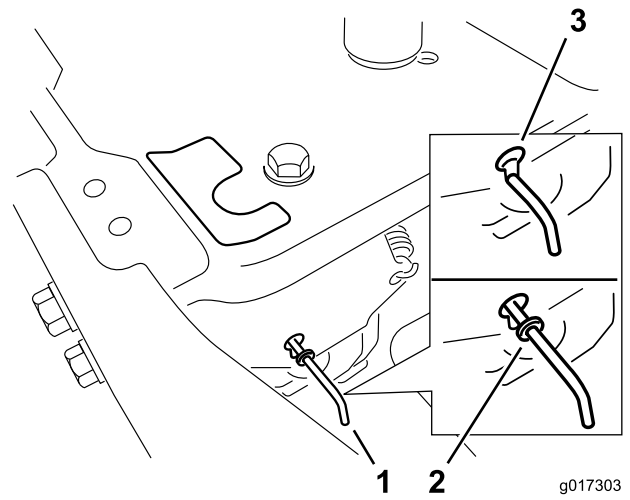

Figure 21
4. Move the bypass levers forward through the key hole and down to lock them in place (Figure 21).
Move the bypass levers rearward through the key hole and down to lock them in place as shown in Figure 21.